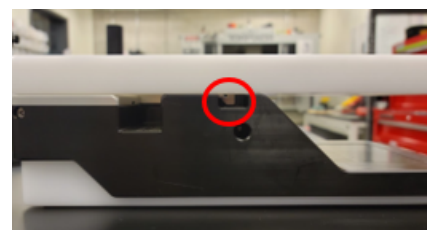

Figure 117: Fully Engaged Latch
8. To complete assembly, **swing the arm of the flow cell assembly tool down until both latches on either side of the tool have engaged** (Figure 117). Once engaged, both green release buttons will pop out